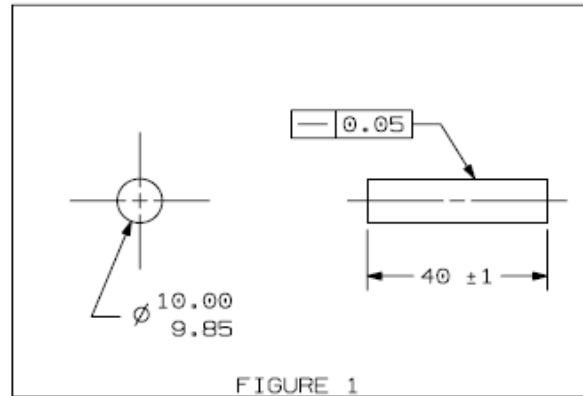

FIGURE 1
**Figure 1** shows an example of straightness applied to a cylindrical feature. The feature control frame is attached to a leader directed to the surface. All circular elements of the surface are to be within the specified size tolerance (10.00/9.85). Each longitudinal element of the surface must lie between two parallel lines separated by the straightness tolerance (0.05). In this case, the straightness tolerance must be less than the size tolerance. As the diameter of the cylinder approaches its maximum material condition(MMC), the actual amount of straightness allowed will decrease because the size limit must not be violated. The form must be perfect if the cylinder is at MMC (see table 1).